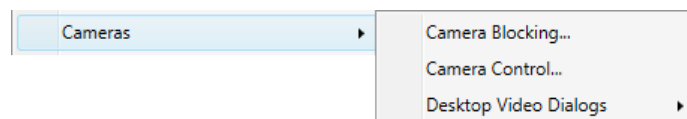

Figure 3-8 – Cameras Menu
- **Cameras Menu** (see Figure 3-8): This option allows the operator to control CCTV cameras; the software is described in detail in Section 3.2.6.